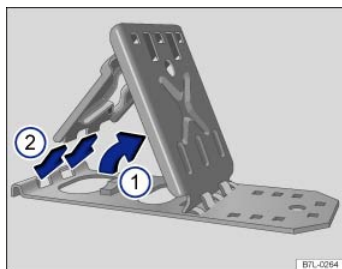

Fig. 208 Setting up folding chock.
- Raise the support plate ⇒ Fig. 208①.
- Insert both lugs of the securing plate completely in the elongated holes of the base plate ②.